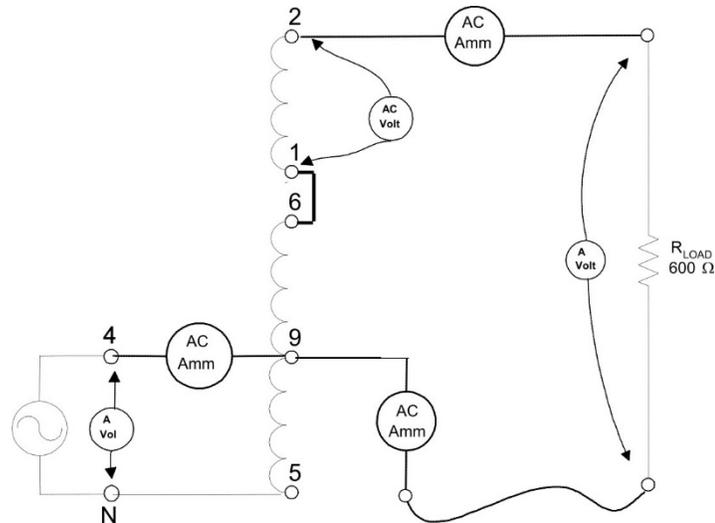

FIGURE 4.23
Step 4: Connect the instrumentation to measure the power, voltage, and current in the circuit as in Figure 4.23.